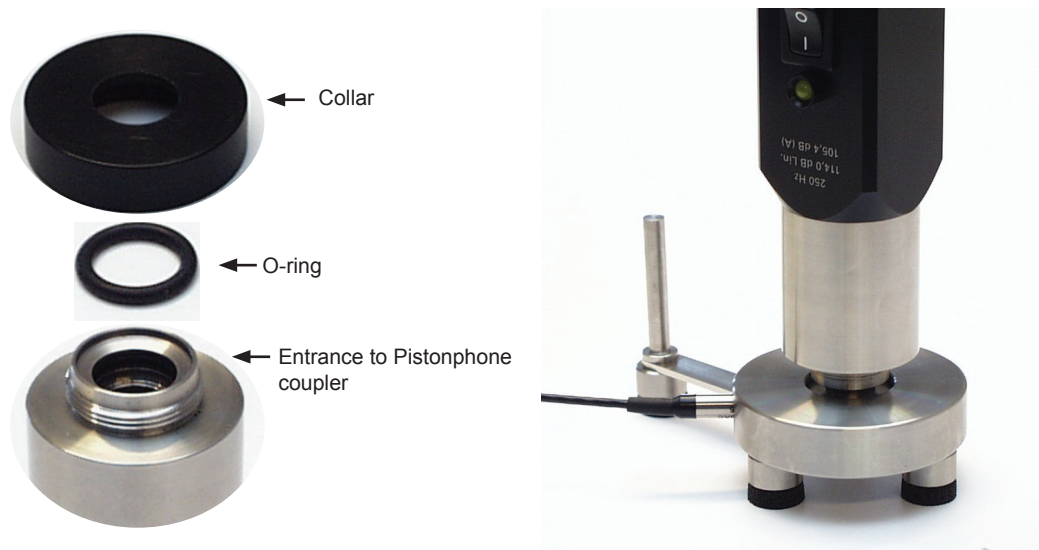

Fig. 1.6 Calibration using the Pistonphone
- 3) Unscrew the collar of the Pistonphone and remove the O-ring (see Fig. 1.6).